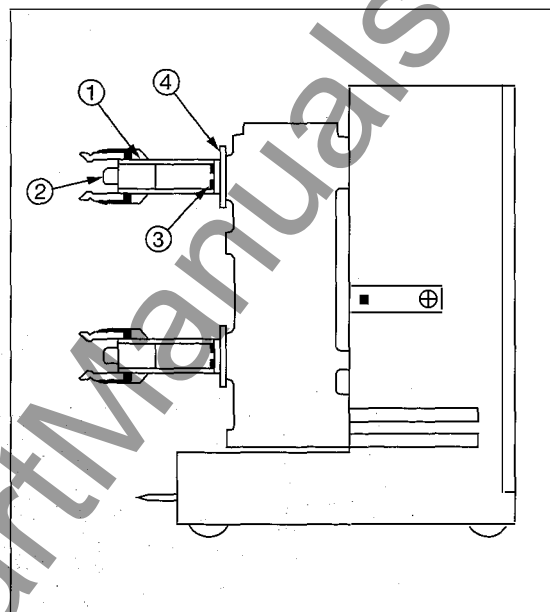

Figure 34: Removal of 2000A/3000A pole units
Do not loosen bolts around outer flange where the pole unit attaches to the runback (4, figure 34), or gas could leak from the pole unit.
3. Remove four 10-32 screws (1, figure 34) and slide the contact assembly from both runback tubes.
4. Remove the contact spacer assembly from inside both runback tubes (2, figure 34).
5. On both runback tubes, remove two M12-1.75 cap screws with a 10 mm allen socket and long extension (3, figure 34). The runback tubes are now separated from the interrupter bottle.